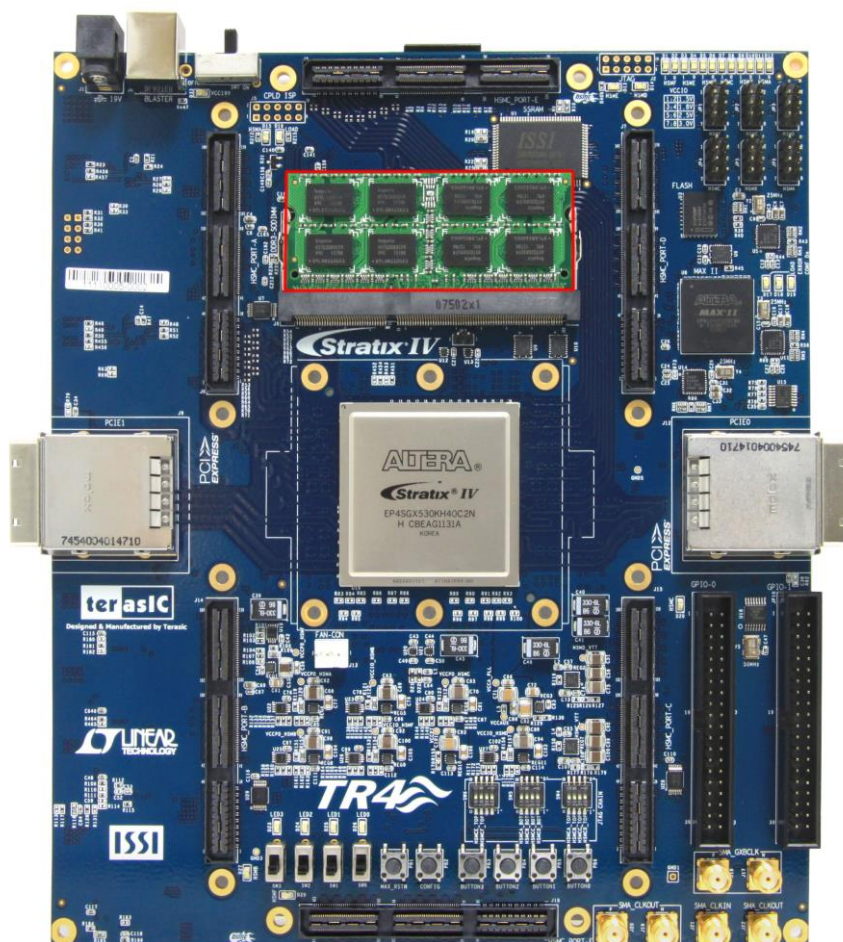

Figure 5-10 Insert DDR3-SDRAM SODIMM for the DDR3 4G Demonstration
- Make sure DDR3-SDRAM SODIMM (4 GB) is installed on your TR4 board, as shown in **Figure 5-10**.